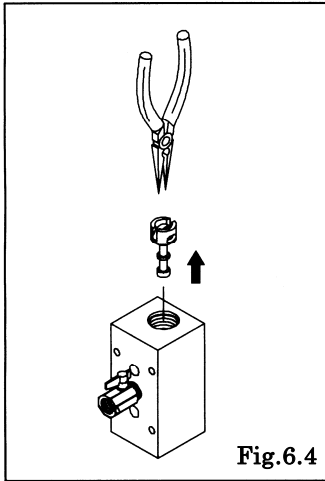

Fig.6.4
- Use pliers to pull out the C spool valve assembly. [Fig.6.4]